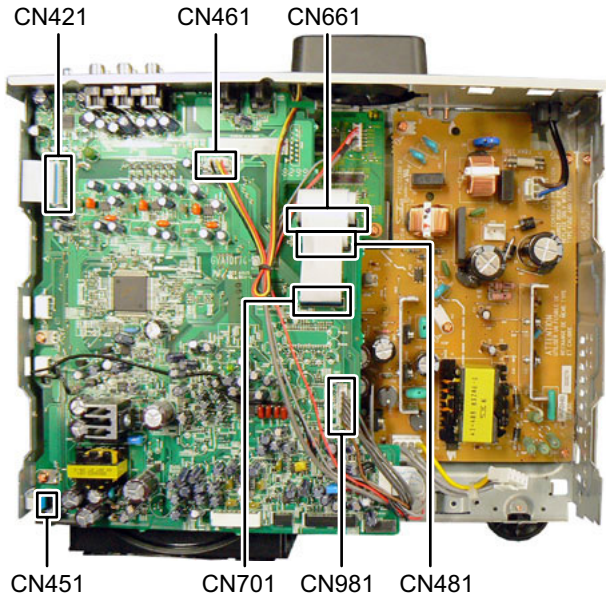

Fig.12
3.1.5 Removing the Main board (See Fig.12, 13)
- (1) Disconnect the connector wire from FAN connected to connector **CN461** of the Main board. (See Fig.12)
- (2) Disconnect the connector wire from Power supply unit connected to connector **CN981** of the Main board. (See Fig.12)
- (3) Disconnect the card wires from DVD module board connected to connectors, **CN481**, **CN661** and **CN701** of the Main board. (See Fig.12)
- (4) Disconnect the card wire from Tuner pack connected to connector **CN421** of the Main board. (see Fig.12)
- (5) Disconnect the card wire from Loader board connected to connector **CN451** of the Main board. (See Fig.12)
3.2.3 Removing the feed motor assembly (See Fig.12)